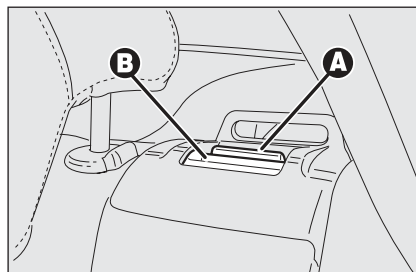

fig. 6
- ☐ lift seat back lever **A-fig. 6** to unlock respectively the left or right section of the backrest and tilt the seat back forward. Lever raising is indicated by a "red band" **B**.
IMPORTANT When the backrest is properly secured, the “red band” **B**-**fig. 6** on levers **A** shall no longer be visible. The “red band” actually indicates that the backrest is not properly secured. Make sure the head restraints are properly positioned.